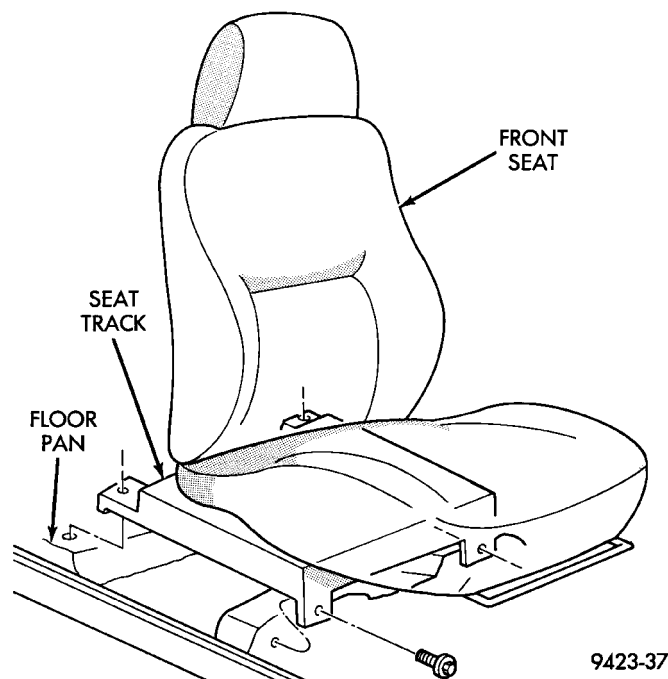

Fig. 1 Front Seat
- (1) Move seat to forward position.
- (2) Remove bolts holding rear of seat track to floor.
- (3) Move seat to rearward position.
- (4) Remove bolts holding front of seat track to floor crossmember (Fig. 1).
- (5) Separate seat from vehicle.